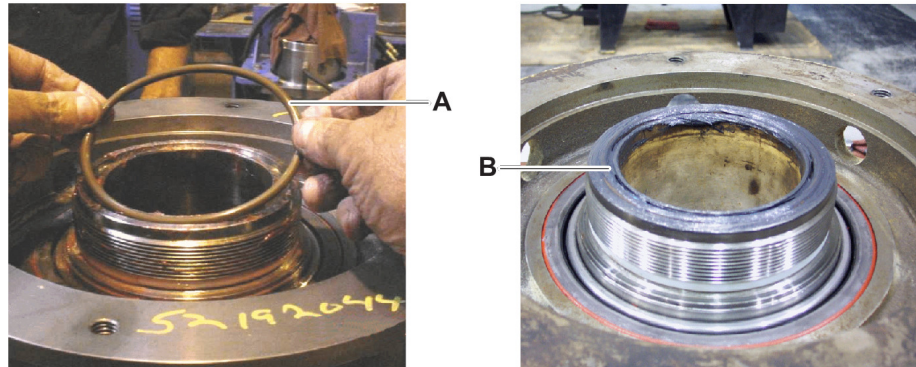

Figure 7
9. Lubricate the spindle threads with a very thin layer of clean grease. Put the O-ring (Figure 7, item A) into groove at the top of the spindle (item B) to help seal the spindle cap. Apply the O-ring with grease after installation.